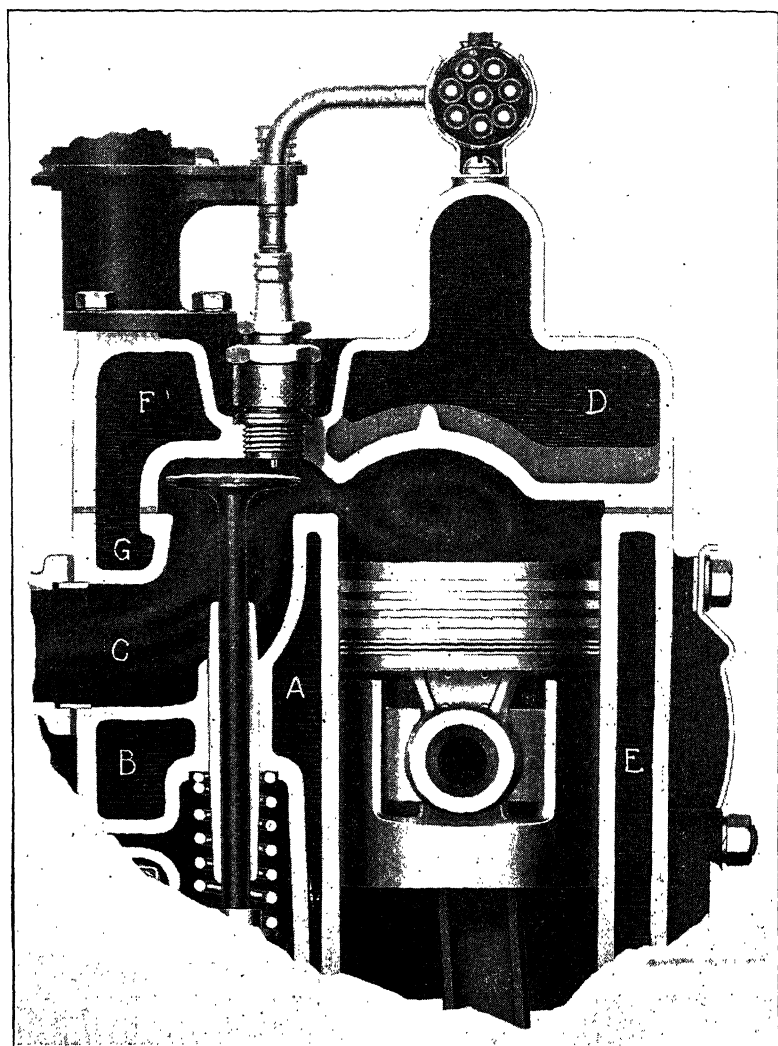

Fig. 1. Parts Which Must Be Cooled
**Types of Cooling Systems.** In the case of an engine of the general characteristics of that shown in Fig. 1, we have what is termed a water-cooled engine. Water is used as an element or medium for transferring the heat from the metallic parts of the engine to the radiator, from which point the heat is dissipated into the air by means of the cooling fins of the radiator and the currents of air which are forced through it by driving or by the action of the fan.
By referring to Fig. 1, it will be noted that definite provision has been made for using water in jackets surrounding the parts which require cooling. The cylinder is surrounded by the water jackets *A* and *E*. Heat within the cylinder is carried through the cylinder wall into the cooling water. Heat which strikes the piston head is first transmitted to the piston body from which point it flows to and through the oil film surrounding the piston and thence into the cylinder wall and to the water. Spark plugs are set into the cylinder head in most cases. The water spaces in the cylinder head are shown at *F* and *D*. It will be noted that the spark plug is effectively cooled by this body of water. This same body of water also conducts away much of the heat which is developed within the combustion space since, unlike the cylinder walls, it is always in contact with the gases in the combustion chamber.
Valves are subject to burning if they are not properly cooled. Cooling the valve seat requires very careful designing. Heat which is taken up by the valve is held within it until such time as the valve is in contact with the valve seat. This metal contact between the valve head and valve seat is the only direct means of valve cooling. It is very likely true that the valve operates at a higher temperature than any other part of the engine. It can also be seen that if the valve seat is not in good condition, the heat is not readily dissipated from the valve into the cylinder block metal. In the case shown in Fig. 1 when the valve is seated, the heat then flows into the metal surrounding the water jackets *A* and *G* and is picked up by the water to be dissipated by the radiator.
In order to keep the valve guide at a satisfactory working temperature, some manufacturers, as in the case of the engine, Fig. 1,